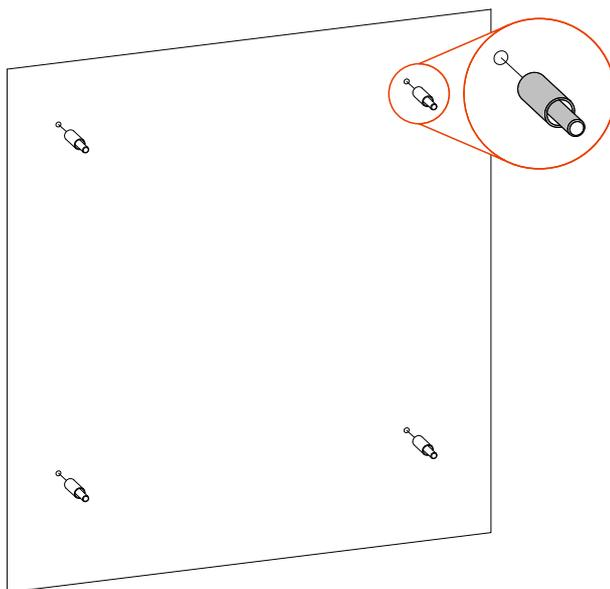

Figure3-5 Install the expansion bolts
- Step 3 As shown in Figure3-5, install the equipped four expansion bolts M10\*80 into the installation holes on the wall.